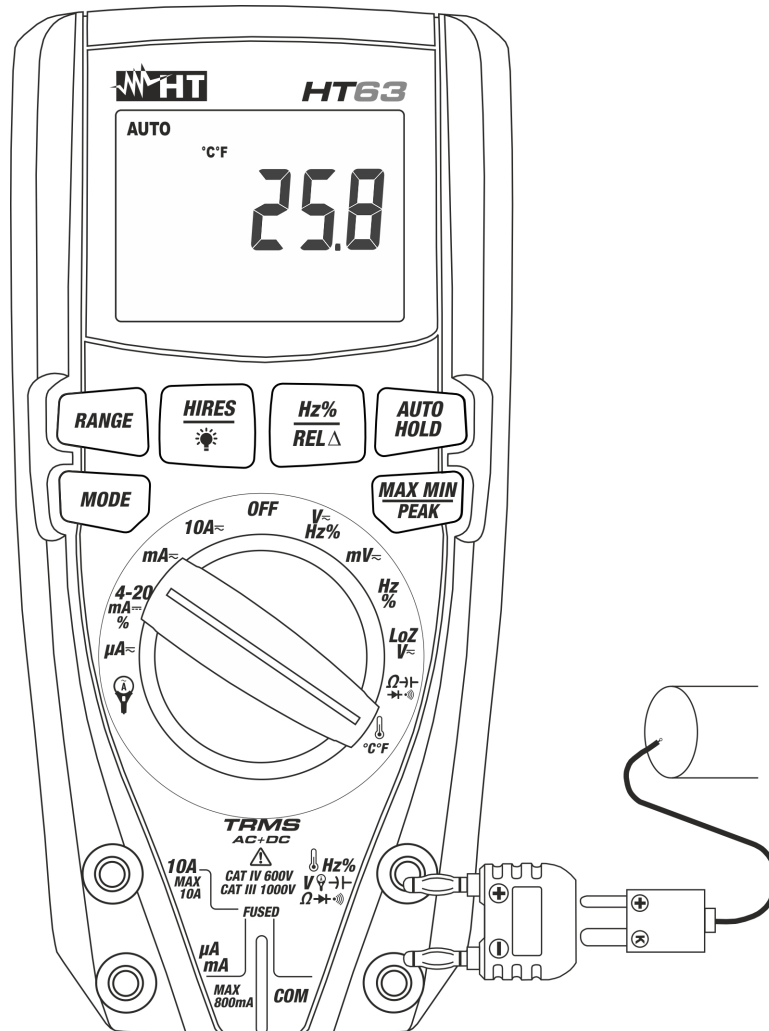

Fig. 9: Use of the instrument for Temperature measurement
3. Insert the provided adapter into input terminals $\text{Hz}\% \text{V}\rightarrow\text{I}\rightarrow\Omega\rightarrow\text{I}\rightarrow\text{I}$ (polarity +) and **COM** (polarity -) (see Fig. 9)